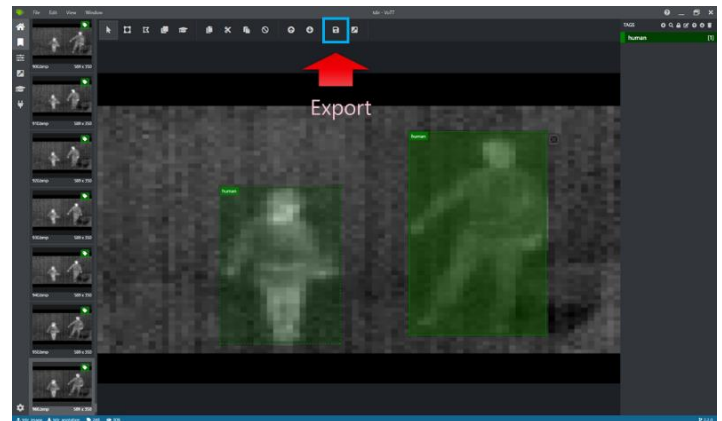

Fig.4.12 Running export
- As shown in Figure 4.12, by pressing the export button at the top of the annotation work screen, the annotation results are exported in a format that can be input to the Model training tool. The data is saved under the folder name "display-name-export" in the folder of the target connection set up in Figure 4.6.